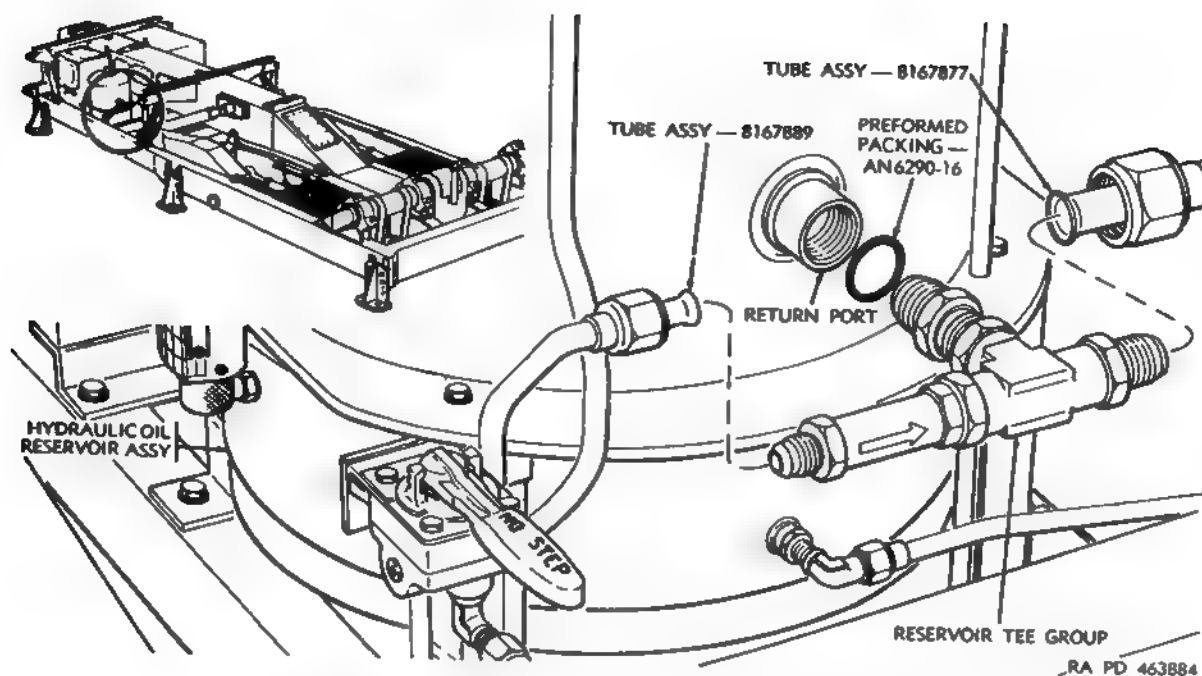

Figure 167. Reservoir tee group - removal and installation.
- (d) Remove reservoir tee group (fig. 167).
- (c) Install reservoir tee group (fig. 167).
- (c) Disconnect tube assembly—8167889 (fig. 167) and remove tube assembly—8167877.
- (a) Install tee group (fig. 167) on hydraulic oil reservoir assembly and connect and install two pipe assemblies. Torque coupling nut on pipe assembly - 8167889 to 500 pound-inches and 8167877 to 1450 pound-inches.